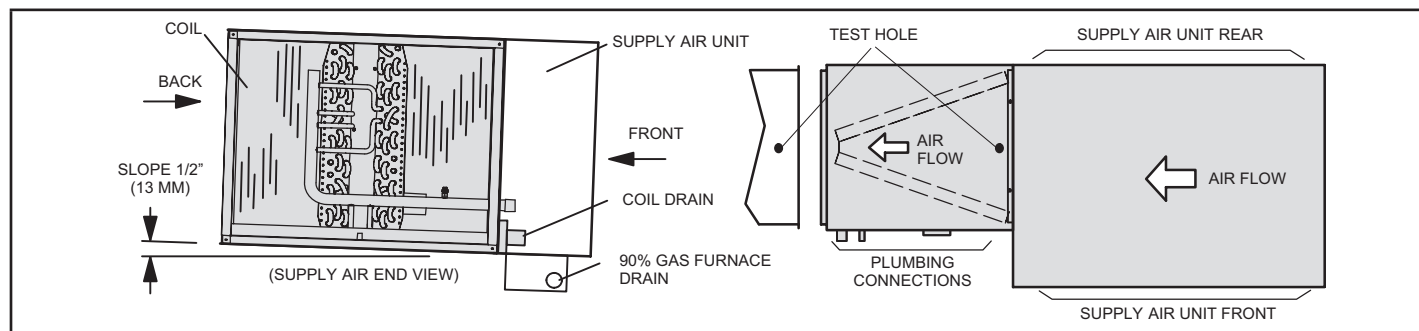

FIGURE 3. Left-Hand Air Discharge
- 1 - Left-Hand and Right-Hand Discharge – The coil must have a 1/2" slope from the rear of the cabinet to the drain.** Position the coil adjacent to the furnace cabinet and align the six screw clearance holes in the coil casing with the furnace engagement holes. Use six field-provided #8 X 1" screws to secure the coil casing to the furnace (see figures 3 and 4).